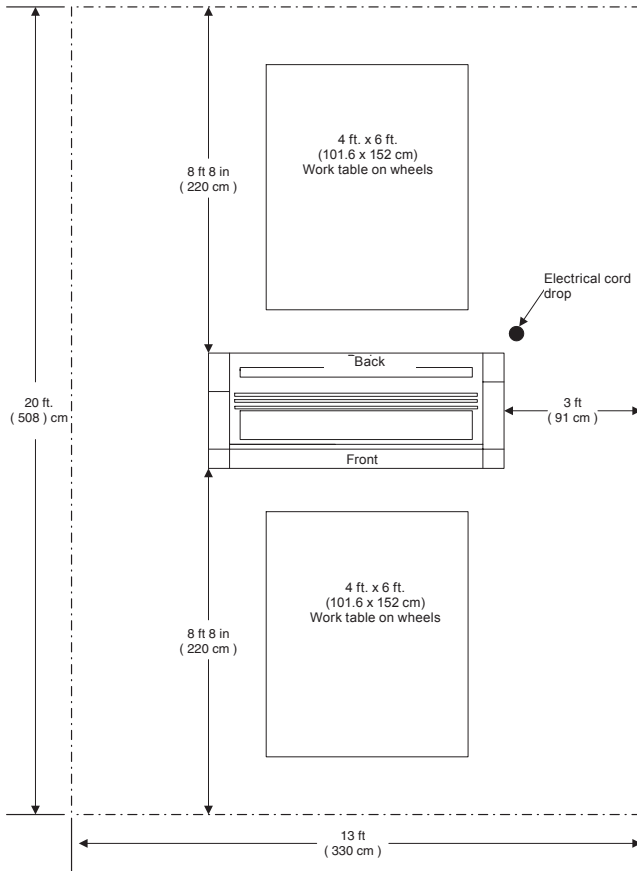

Fig 3
- A work area must be established that allows for operation in both the front and rear of the laminator and provides space for efficient material flow. (Figure 3)